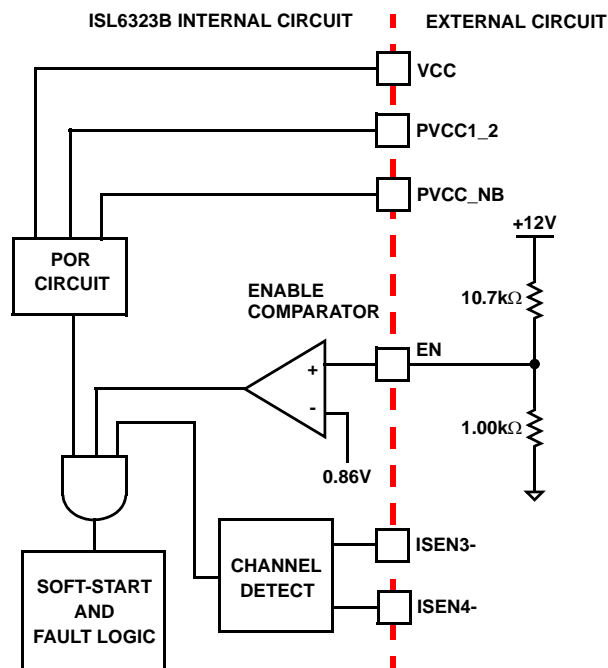

FIGURE 12. POWER SEQUENCING USING THRESHOLD-SENSITIVE ENABLE (EN) FUNCTION
The ISL6323B features a dual function enable input (EN) for enabling the controller and power sequencing between the controller and external drivers or another voltage rail. The enable comparator holds the ISL6323B in shutdown until the voltage at EN rises above 0.86V. The enable comparator has about 110mV of hysteresis to prevent bounce. It is important that the driver ICs reach their rising POR level before the ISL6323B becomes enabled. The schematic in Figure 12 demonstrates sequencing the ISL6323B with the ISL66xx family of Intersil MOSFET drivers, which require 12V bias.